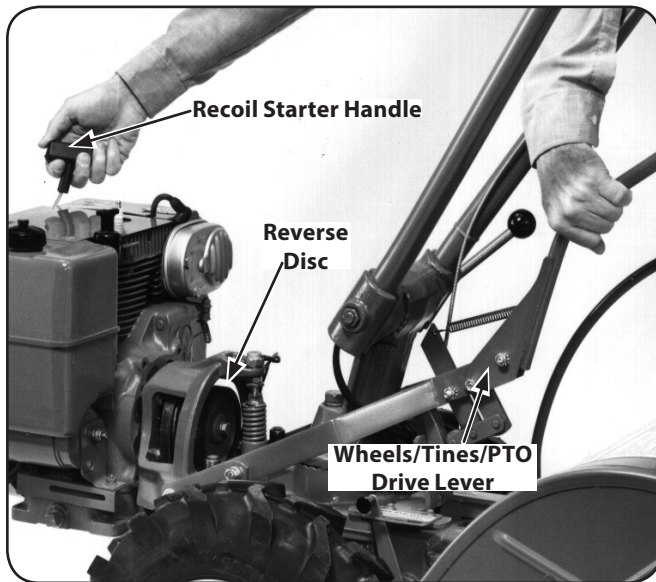

Figure 6-21
3. Use your left hand to hold the Wheels/Tines/PTO Drive Lever up in REVERSE, while briefly pulling out the engine recoil starter. The reverse disc should turn the lower pulley. See Figure 6-21. If not, or it requires a lot of pressure to hold the lever up in REVERSE, then the reverse adjustment bolt must be adjusted downward. When correctly adjusted, the Wheels/Tines/PTO Drive Lever should pop out of reverse when the lever is released, but not require exceptional effort to hold it up in the reverse position.